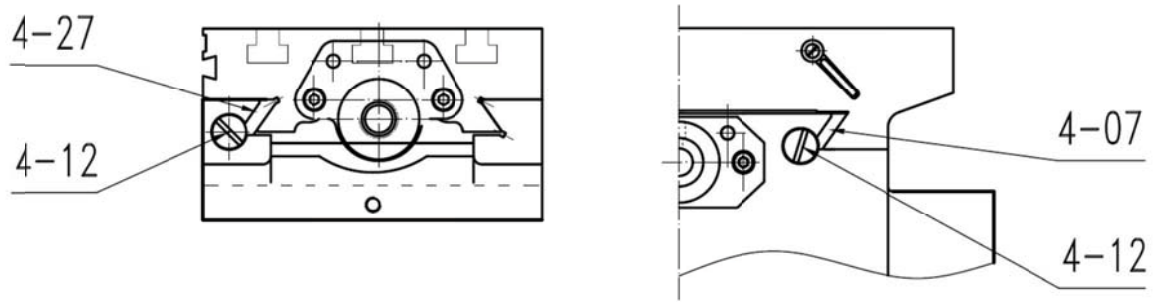

Fig.3
(4)To adjust left and right travel,adjust the sliding plate bolt until feel a slight drag when turning the table(Fig.3)
(5)To adjust fore and aft travel,adjust the sliding plate bolt as shown in Fig.3.